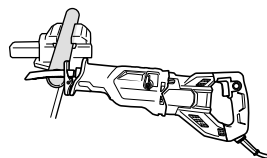

Fig. 22
- (1) Fasten a workpiece firmly before operation. (**Fig. 22**)
- (2) When cutting metallic materials, use proper machine oil (turbine oil, etc.). When not using liquid machine oil, apply grease over the workpiece.